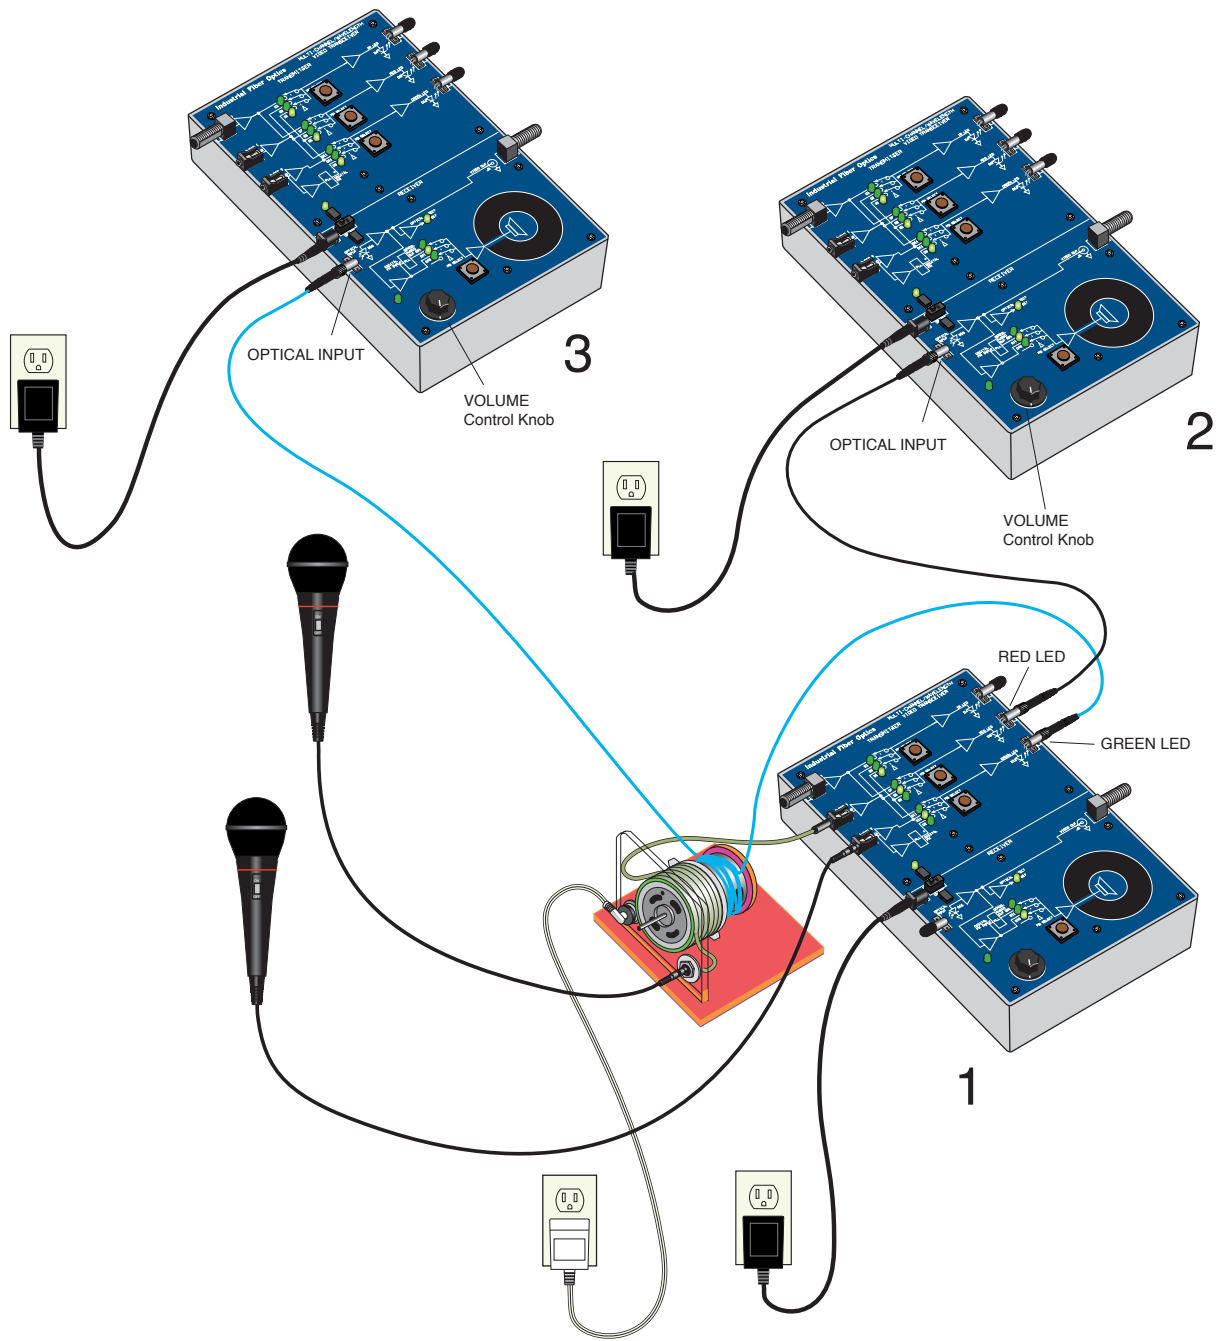

Figure 9. Equipment set-up for showing how fiber optic technology is immune to the effects of EMI.
1. In this experiment you will add two more transceivers and a second microphone to observe the immunity of fiber optic cable to EMI. The original Transceiver you set up in Experiment A will be referred to as Transceiver 1 from now on. Your final equipment set-up to complete this experiment should look like the diagram in Figure 9. You will definitely want to reference this figure as you complete the following steps.